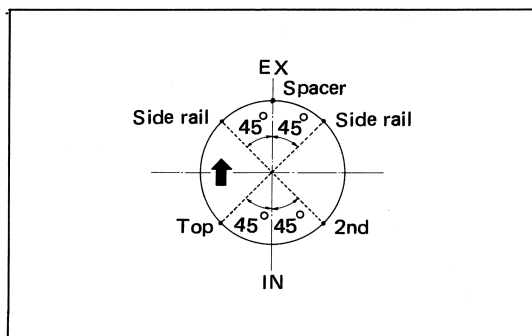

Fig. 1-143
2. Have the ring gaps set as shown in Fig. 1-143 on No. 2 and No. 3 pistons, and then install piston ring compressor (special tool) in the indicated manner. Some light resistance must be overcome to lower the cylinder block.